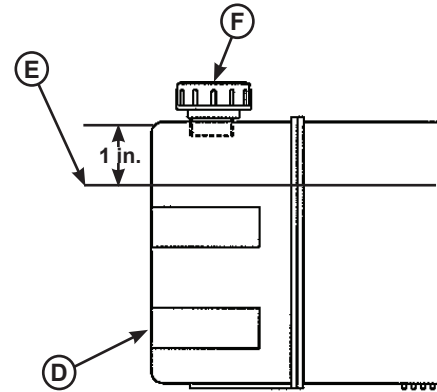
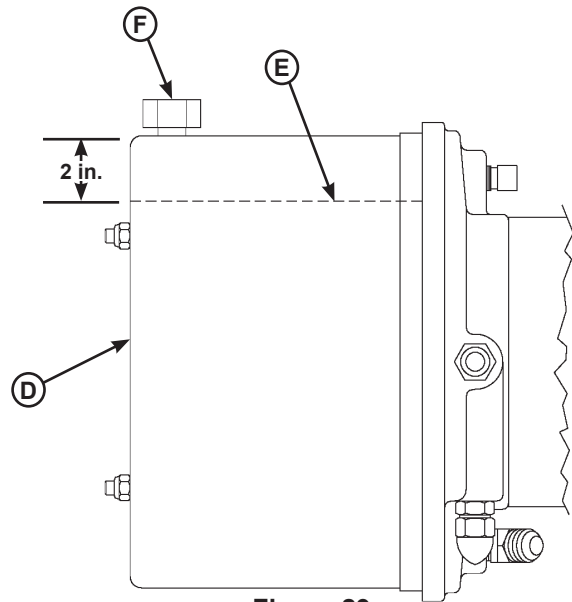

Figure 28
Figure 29
- Check reservoir fluid level (**E**). See Figure 28 for Self-Contained (SC) units, or Figure 29 for Remote-Mount units: